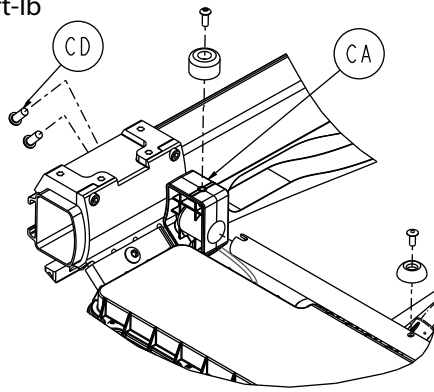

Figure 63 – Remove the Gatch bumper housing
7. Using a T27 Torx driver, remove the two button head cap screws (CD) that secure the Gatch bumper housing (CA) to the hitch bracket (Figure 63). Remove and save the Gatch bumper housing. Save the screws. Repeat on the other side.